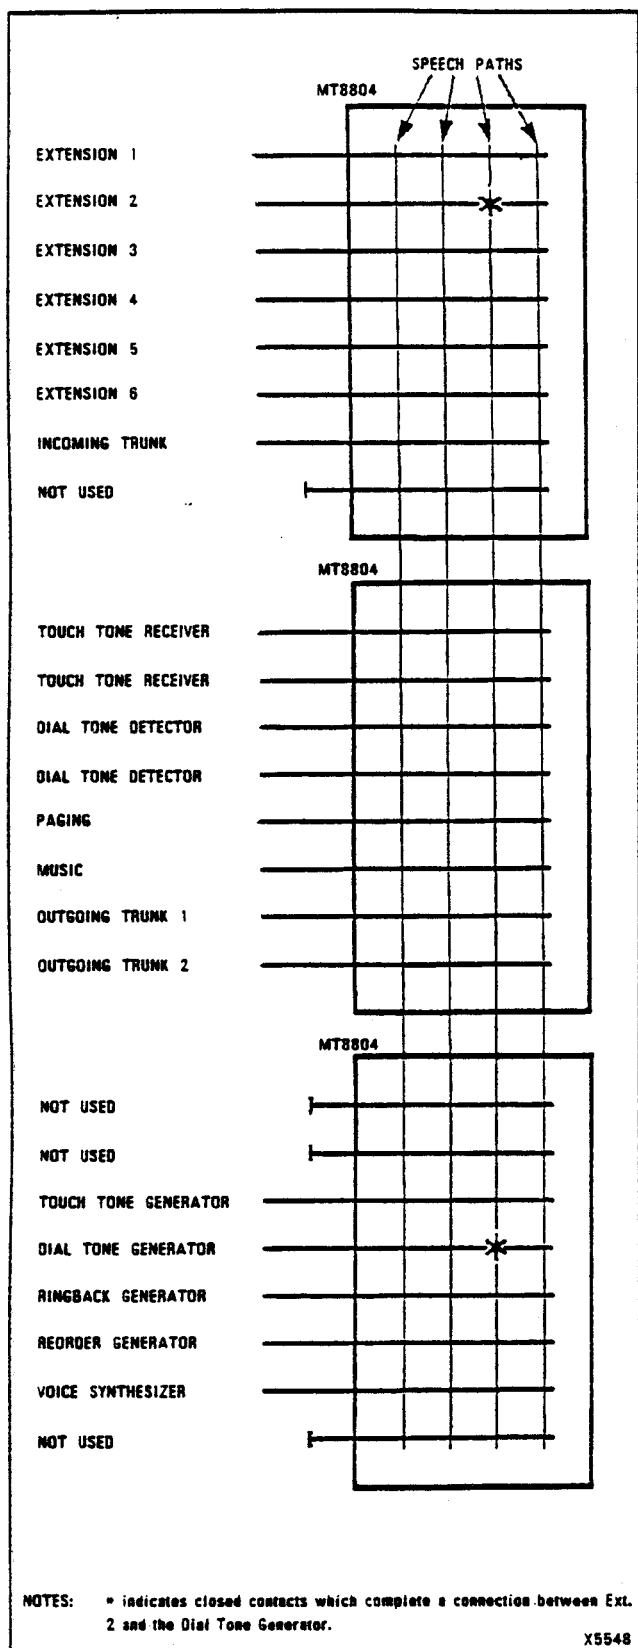

Fig. 9-8 Speech Path Accessing
- Touch tone receivers (2) - decode DTMF signals to produce dialed-digit identity for the CPU.
- System junctors - are the physical connections between the MT8804's shown in Fig. 9-8. The circuits connected to the MT8804's are switched to the junctors under the control of the CPU during a call process.
- SLIC's (6) - provide the interface between the SX-5 and the extensions connected to it.
9.14 Each junctor switch IC (MT8804) contains four speech paths; each speech path is linked to the corresponding speech path of subsequent junctor switches by a system junctor. The circuits which are connected to the junctor switches (e.g. line circuits, trunk circuits, tone generators, etc.) may be interconnected to each other via the speech paths. Such interconnections are controlled by instructions from the CPU throughout the progress of a call. This concept is illustrated in Fig. 9-8.